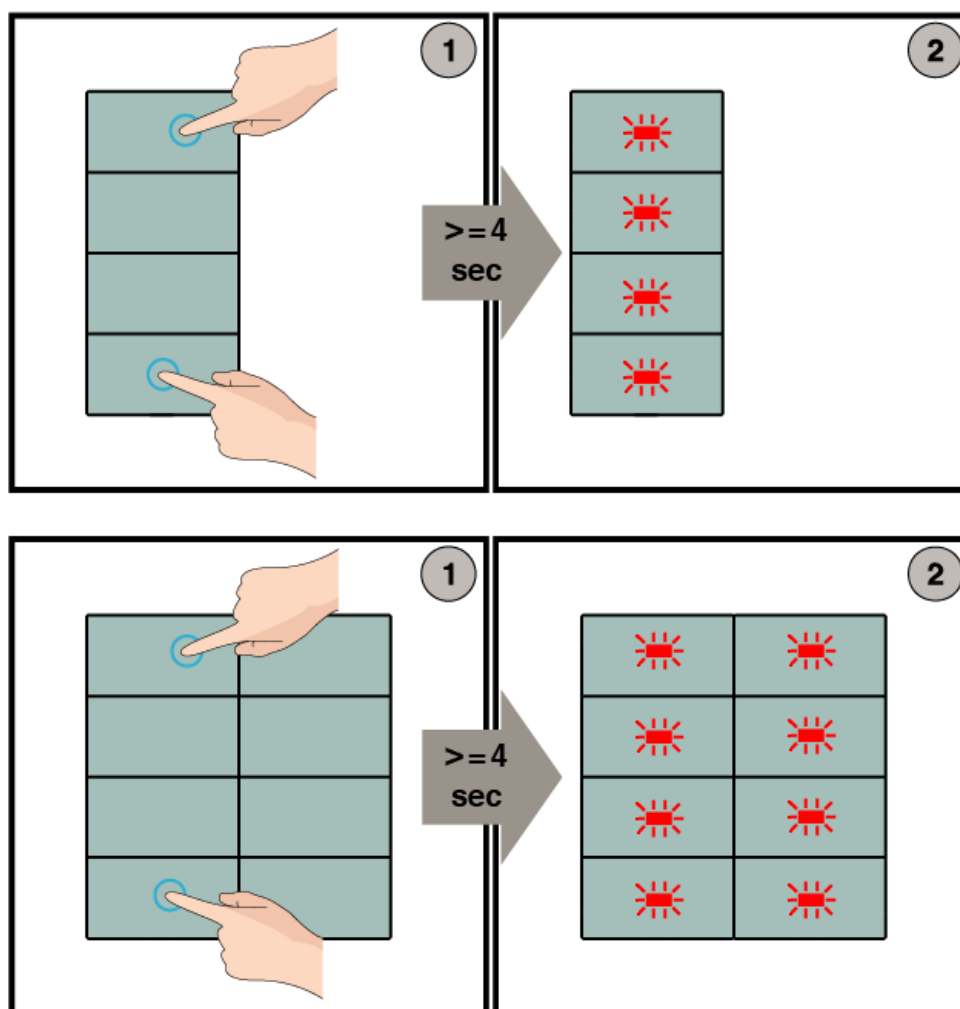

Figure 3 - Device application programming
- switch the device operation to programming mode by pressing simultaneously, for at least 4 seconds, the first and fourth buttons in the 4-key configuration or the first and fourth buttons on the left side for the 8-key configuration (see step 1 in Figure 3);
- releasing the buttons, all the LEDs flash red (step 2 in Figure 3); the device is in programming mode;
To reset the device, keep the same buttons combination for entering the programming mode pressed, for at least 10 seconds (Figure 3). All the LEDs start blinking, then they all switch off: the reset was carried out. Now you need to address and configure again the device via ETS.